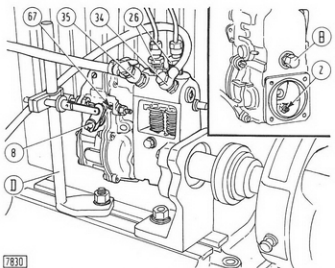

Fig. 51 - Injection Pump in Position on the Test Machine
Place the pump on the test machine (see Fig. 51), seal the lift pump aperture using the cover plate provided, fit the drive coupling and establish the fuel inlet and outlet connections, using the special tools designed for the purpose and Diesel fuel or FIAT calibrating fuel B.
Plug the fuel inlet connection, fit plugs of kit No. **291195** to delivery connectors (26, Fig. 51), remove the relief valve from the fuel return connection and connect to hand pump No. **290284**.
Move throttle lever (8, Fig. 51) to full throttle position and adjust stop screw (67) until the control rod begins to be pulled back at 1250 to 1260 r.p.m.
Pump output at 1240 to 1250 r.p.m. can be adjusted through screw (2, Fig. 51).
(1) Governor cut-in speed 1250 to 1260 r.p.m.
(2) Adjust maximum fuel screw (2, Fig. 51)